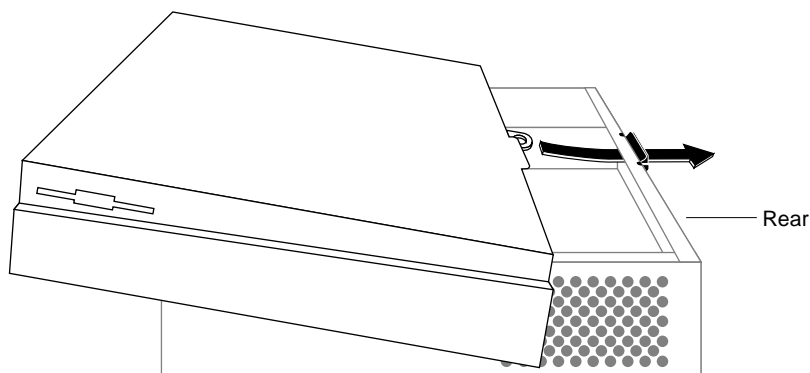

Figure 2-29 Replacing the Top Cover on the Indy Workstation
1. Facing the front of the system, lower the cover about a few inches from its fully closed position, as shown in Figure 2-29.